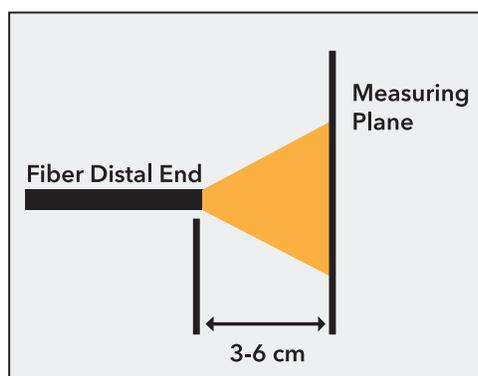

Figure 5
4. Set up the energy or power meter in front of and parallel to the distal face of the test fiber establishing the measuring plane, as shown (see Figure 5). Be careful not to place the fiber tip too close to the energy or power meter probe, as the energy density may damage the detector's sensitive surface.